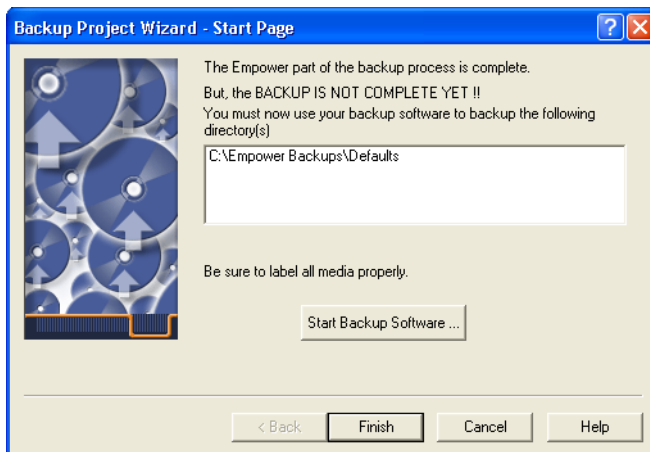

Figure 8-4 Backup Project Wizard–Start Page
4. This page displays Oracle messages as the projects are exported. When the export finishes, click **Next**. (This button is available only after the export is complete.) The Start Page appears (Figure 8-4).